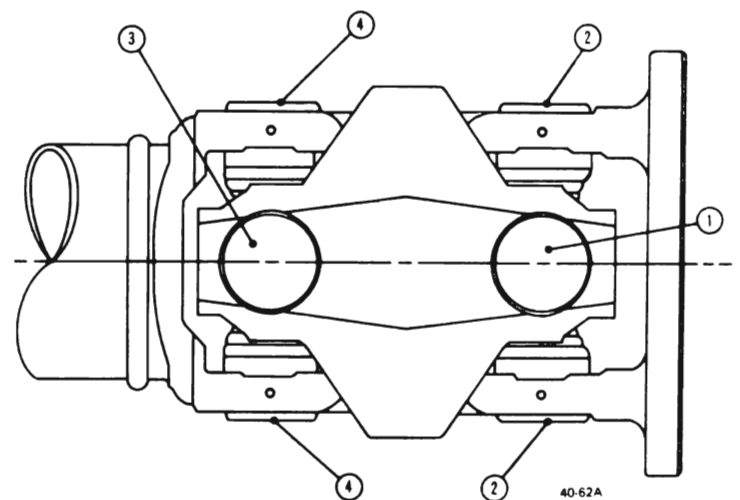

Figure 40-62 Bearing Cap Removal Sequence
1. Support the propeller shaft in a horizontal position in line with the base plate of a hydraulic press. The bearing cups should be removed in the order indicated in Figure 40-62. This method requires the least work to get to the heart of the centering ball system where the most critical